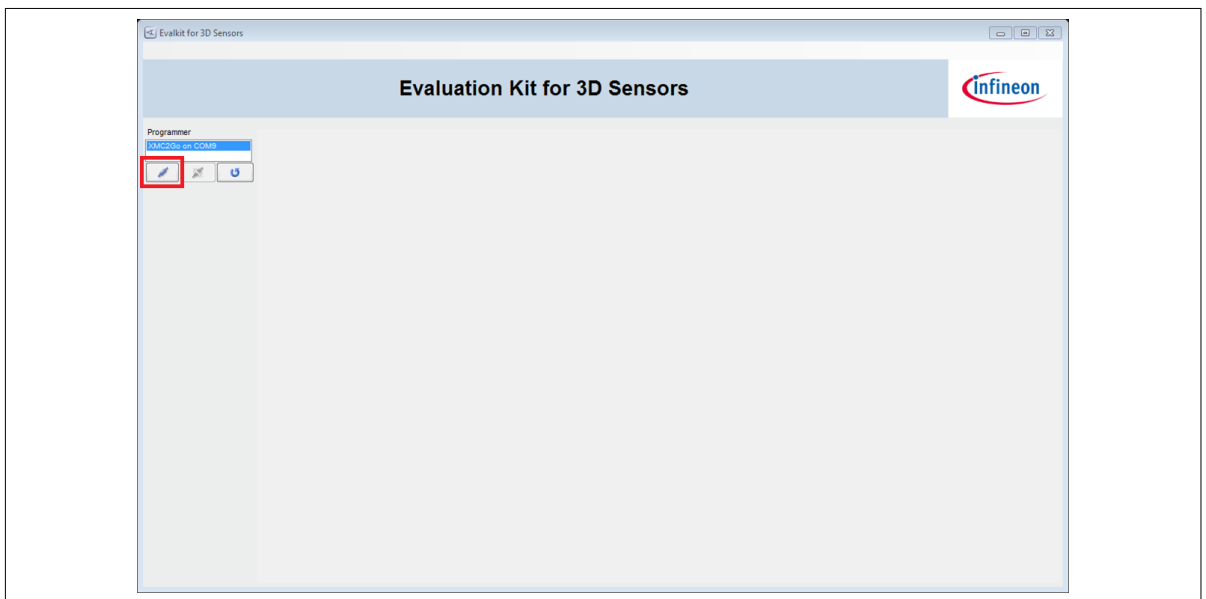

Figure 27 Establish the connection to the EvalBoard
2. Open the 3D 2Go GUI by clicking the shortcut in the start menu. On the top left side you should find the XMC2Go board in the list. If not, check that the EvalBoard is correctly connected to the PC and the J-Link driver is installed. Click on the **Connect to selected programmer button** which is marked in Figure 27 to establish the connection with the 3D Magnetic Sensor 2 Go kit. The first time you connect the board, a firmware will be downloaded to the XMC1100 which takes short time. This is indicated by the blinking power LED on the EvalBoard.